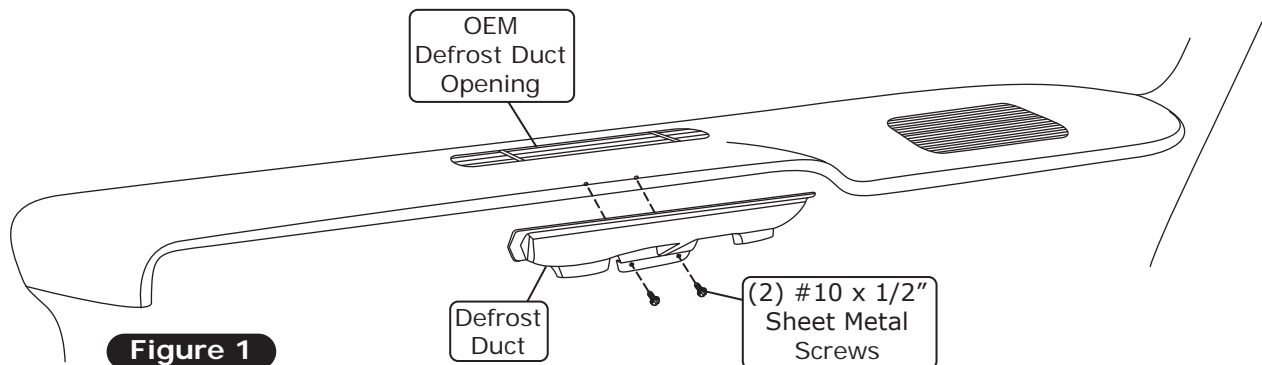

Figure 1
1. Install the defrost duct under the dash, aligning it with the OEM opening. Secure the defrost duct to the cowl using (2) #10 x 1/2" sheet metal screws (See Figure 1, below). **NOTE: Apply silicone to the screws to ensure a leak-free installation.**